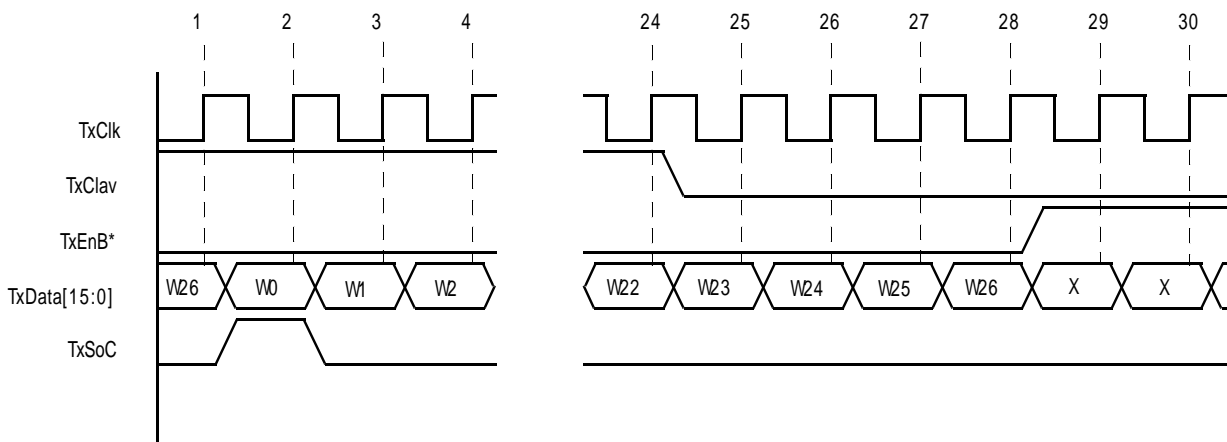

Figure 22. Timing Diagram of ATM Layer processor Transmitting Data to the UNI over the Utopia Data Bus, (Single- PHY Mode/ Cell- Level Handshaking).
The above- mentioned procedure is also depicted in Flow- Chart Form in Figure 21; and in Timing Diagram form in Figures 22 and 23.
Notes regarding Figure 22:
2. The Transmit Utopia Interface Block is configured to handle 54 bytes/cell. Hence, Figure 22 illustrates the ATM Layer processor writing 27 words (W0 through W26) for each ATM cell.